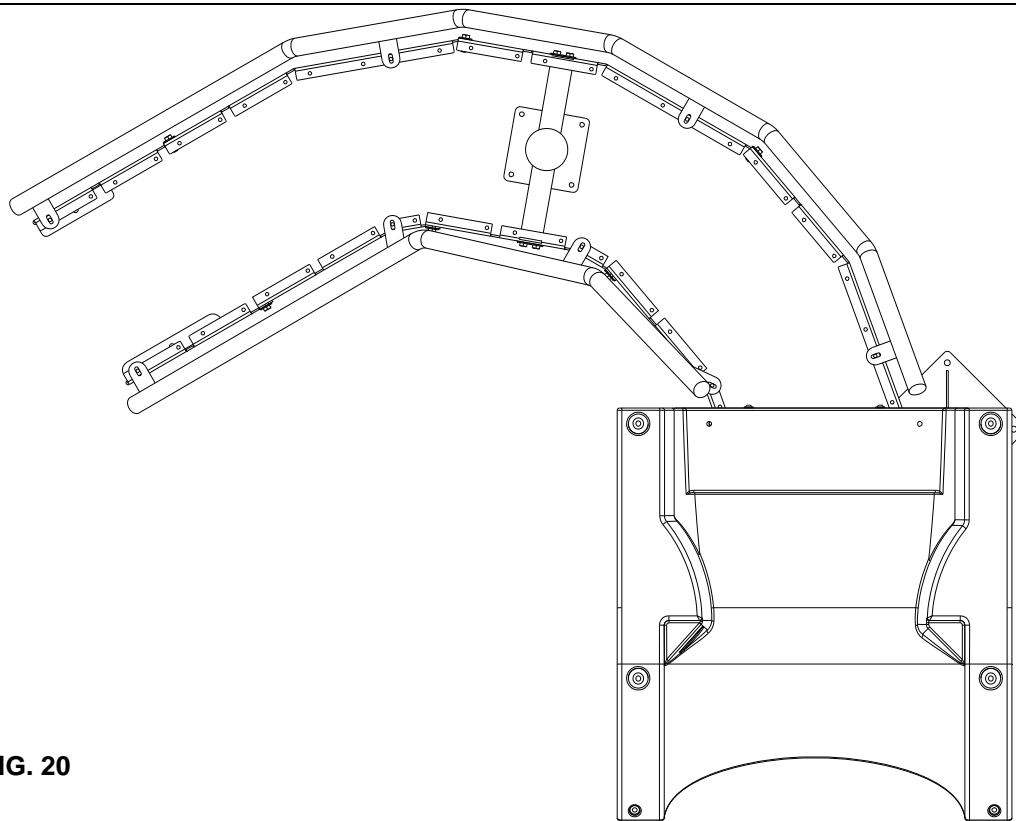

FIG. 20
5) Install the stair treads on all steps where the handrail brackets will not be attached. The handrail brackets are installed on the following steps, starting from the bottom: 1, 5, 8, and 11. Beginning at the top, align the pre-drilled holes in the stair treads with the holes on each side of the stair brackets, as shown in Figure 20. Use the following hardware to attach the stair treads to the brackets: 5/16" x 1.25" Hex Head Lag Screw (32), 5/16" Flat Washer (34), and a 5/16" Nylon Washer (33).
6) Position the inside and outside handrails in place, as shown in Figure 20. To ensure proper alignment of the assembly, temporarily install hardware through the mounting holes in the handrail brackets and the stair brackets.